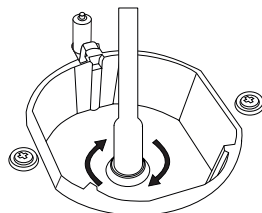

Figure 6
4. Remove injector by turning as shown in Figure 6 with screwdriver and replace it with a new one.